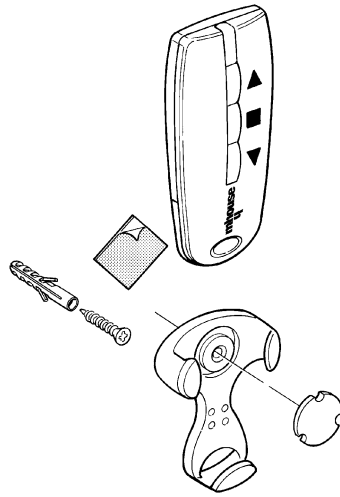

Fig. 2
The TX3 transmitter is equipped with a fitting support, which allows the unit to be wall-mounted if desired. When fastening the support, if the surface is smooth and solid, the adhesive provided may be used; if not, the screw supplied for this purpose can be used (with the wall plug if necessary), see Fig.2.
**Warning:** The product runs on batteries which may contain pollutants and therefore must not be thrown away with the ordinary rubbish. After removing the batteries (Fig.2) dispose of them properly, complying with the methods prescribed for batteries by local regulations.